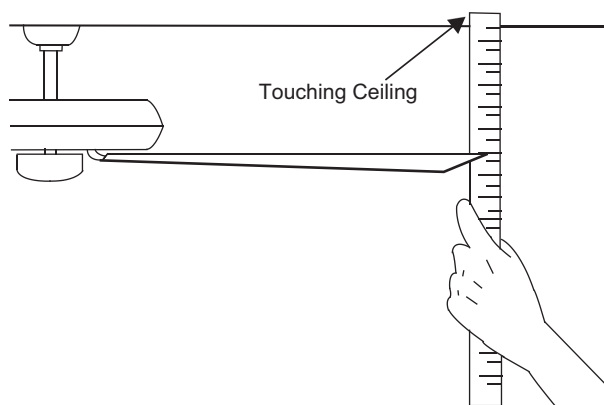

Figure 12
2. Most fan wobble problems are caused when blade levels are unequal. Check this level by selecting a point on the ceiling above the tip of one of the blades. Measure from a point on the center of each blade to the point on the ceiling. Measure this distance as shown in Figure 12. Rotate the fan until the next blade is positioned for measurement. Repeat for each blade. Measurements deviation should be within 1/8". Run the fan for 10 Minutes.